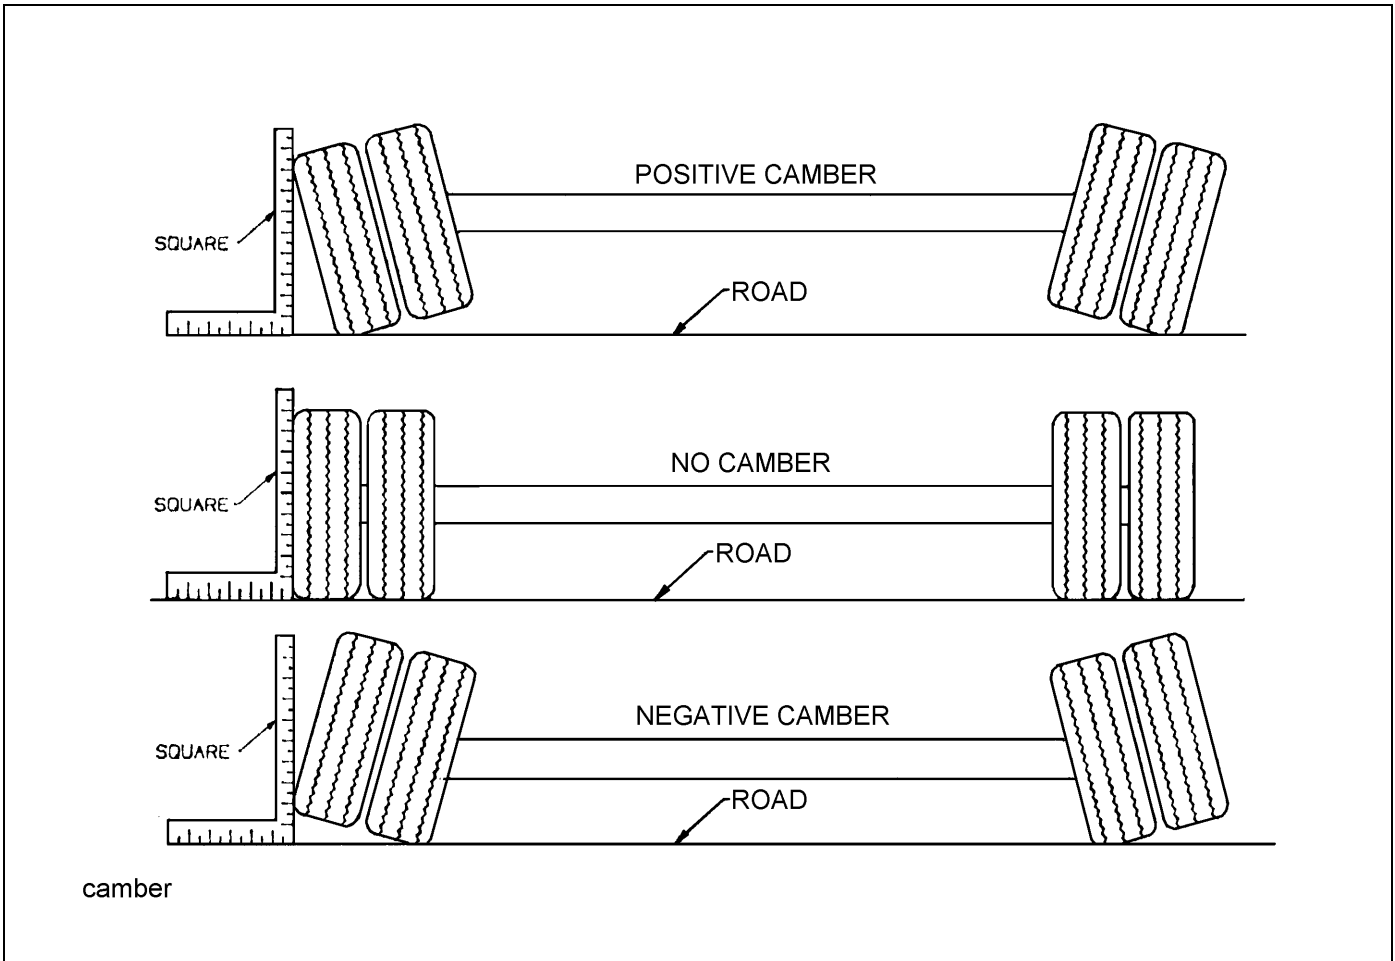

Figure 4-3: Examples of Camber
4. Follow the same procedures as in **steps 2 and 3**, except place the axle gauge above and below the axle. If gauge point gap is found, the axle has positive or negative camber. The trailer axle has no camber from the factory. If it is found to have positive or negative camber, axle replacement is necessary **(See Figure 4-3** for examples of camber).